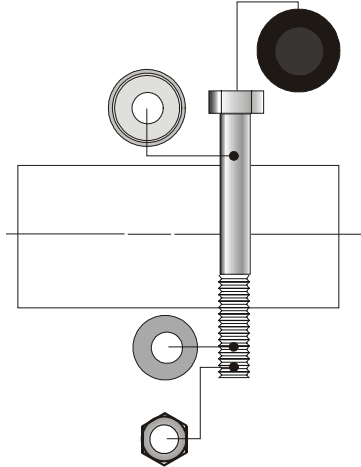

Figure 7. Configuration for 6" bolts.
4. **Mount the 56" lat top** (part T from *HARDWARE* section) to the 4-stack cell using a 5/8" socket and combination wrench. Insert two of the large 7/16" by 6" bolts using the hardware configuration shown in Figure 7. Mount the 29" tricep top (part U in *HARDWARE* section) to the frame and connecting beam (See Figure 7).
Hardware Figure 7. Floating pulleys.